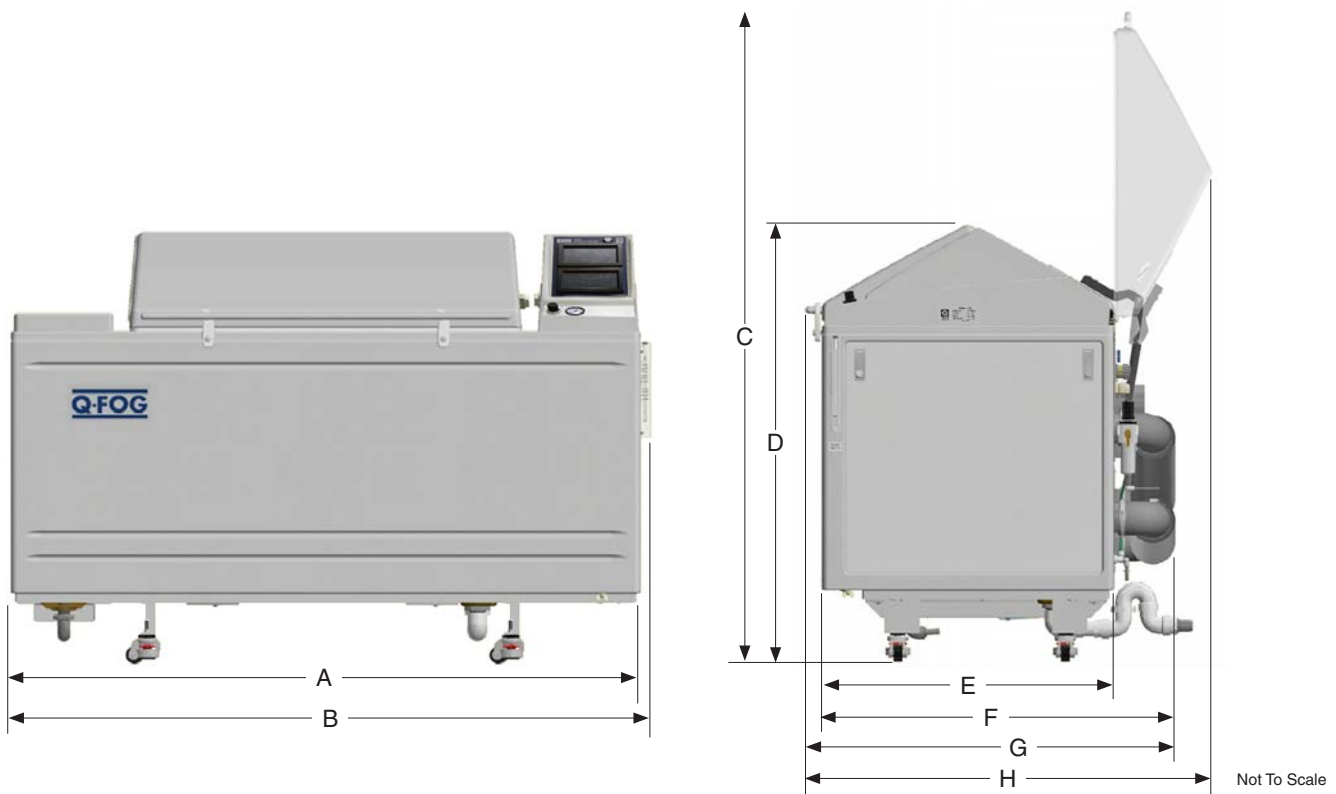

Figure 6.1a: Q-FOG CRH external dimensions.
- Figure 6.1a shows the external dimensions of the Q-FOG CRH main test chamber.